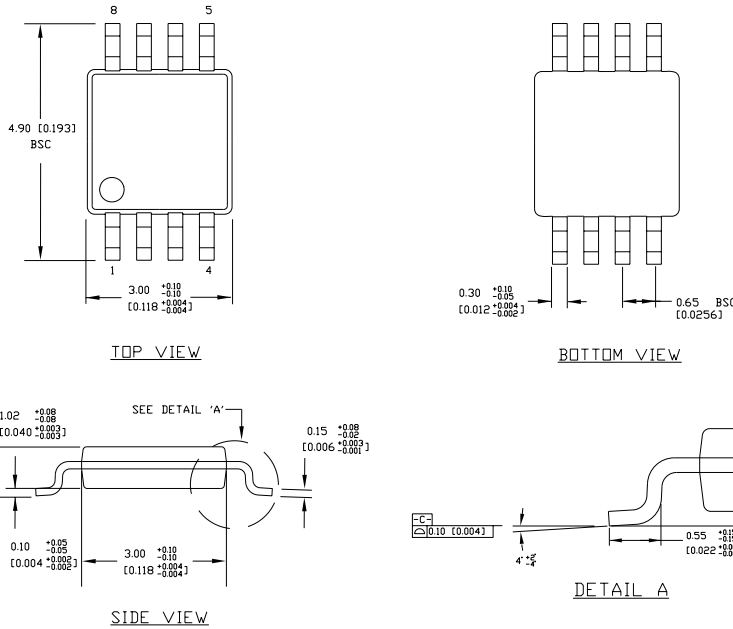

**Figure 7.  $V_{DD}$  Decoupling for Very Noisy Supplies**
7. When the MIC284 is being powered from particularly noisy power supplies, or from supplies which may have sudden high-amplitude spikes appearing on them, it can be helpful to add additional power supply filtering. This should be implemented as a 100 $\Omega$  resistor in series with the part's VDD pin, and a 4.7 $\mu$ F, 6.3V electrolytic capacitor from VDD to GND. See Figure 7.